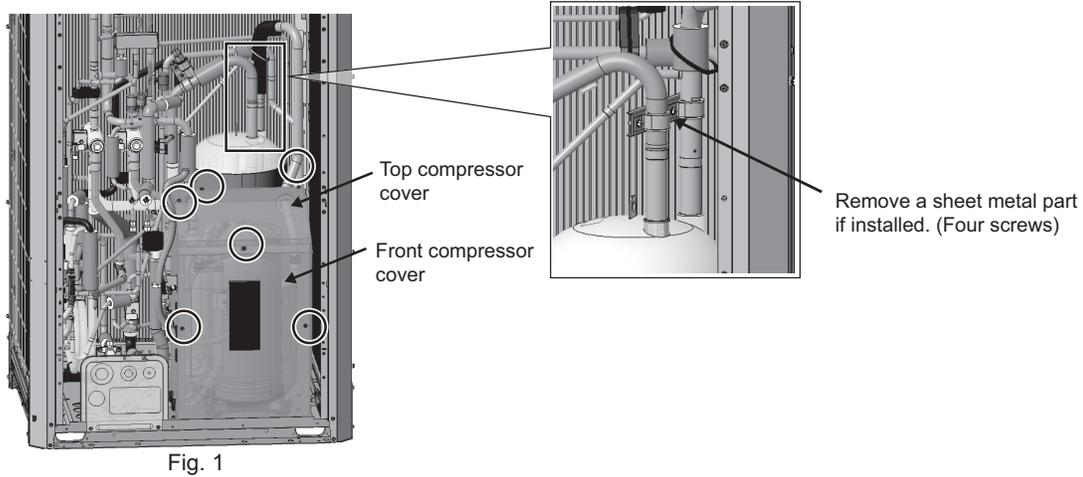

Fig. 1
- (1) Remove the front panels of the casing. (15 screws on S module, 21 screws on L module: Fig. 1)
(1) Remove the front and top covers of the compressor. (Six screws: Fig. 1)